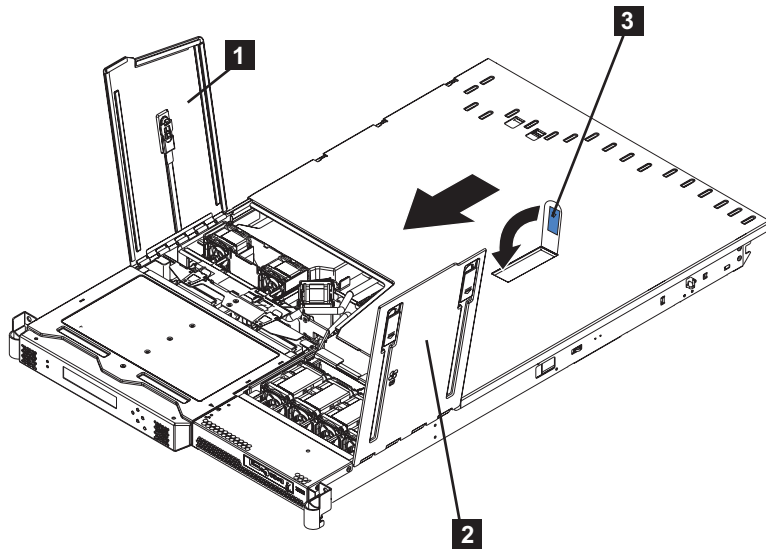

Figure 70. The SAN Volume Controller 2145-8F2 with fan doors open
3. Press down on the cover release latch **3** until the cover properly engages all the inset tabs on the SAN Volume Controller 2145-8F2. See Figure 70 on page 288.